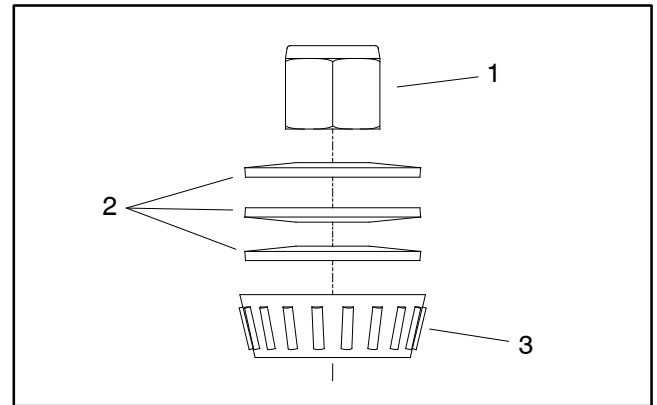

Figure 14
4. Remove grease cap (item 1) from carrier frame. Discard cap.
6. Remove three (3) Belleville washers and upper bearing cone from carrier frame. Note orientation of washers as they are removed (Fig. 14). Belleville washer orientation is critical for proper castor wheel movement.
4. Slide castor fork up through carrier frame taking care to not damage seal. Position grease packed bearing cone onto castor fork. Place three (3) belleville washers onto castor fork noting orientation shown in Figure 14.
6. Remove plug (item 12) from carrier frame. Using grease gun through plug hole in frame, fill area surrounding the castor fork shaft with grease. Allow grease to fill cavities below lower bearing, between bearings and above upper bearing. Reinstall plug into frame.
**NOTE:** Periodic greasing of castor fork bearing area is not necessary. Do not replace plug (item 12) with grease fitting. Grease cap (item 1) will loosen if castor fork has excessive grease installed.
7. Install new grease cap (item 1) so cap shoulder is flush with top of carrier frame. There should be no evidence that the cap is indented by top of castor fork.